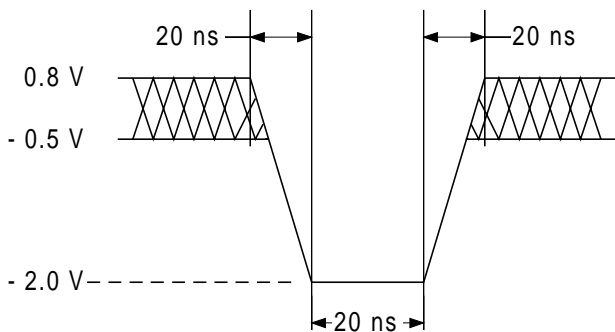
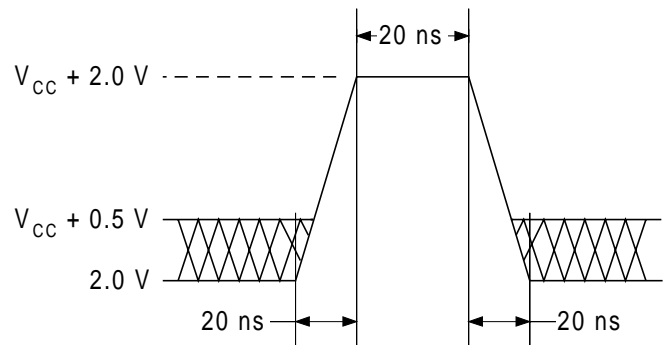

Figure 9. Maximum Undershoot Waveform
Figure 10. Maximum Overshoot Waveform
1. Minimum DC voltage on input or I/O pins is -0.5 V. During voltage transitions, input or I/O pins may undershoot V_{SS} to -2.0V for periods of up to 20 ns. See Figure 9. Maximum DC voltage on input or I/O pins is $V_{CC} + 0.5$ V. During voltage transitions, input or I/O pins may overshoot to $V_{CC} + 2.0$ V for periods up to 20 ns. See Figure 10.
2. Minimum DC input voltage on pins A[9], OE#, and RESET# is -0.5 V. During voltage transitions, A[9], OE#, and RESET# may undershoot V_{SS} to -2.0 V for periods of up to 20 ns. See Figure 9. Maximum DC input voltage on these pins is +12.5 V which may overshoot to 14.0 V for periods up to 20 ns.